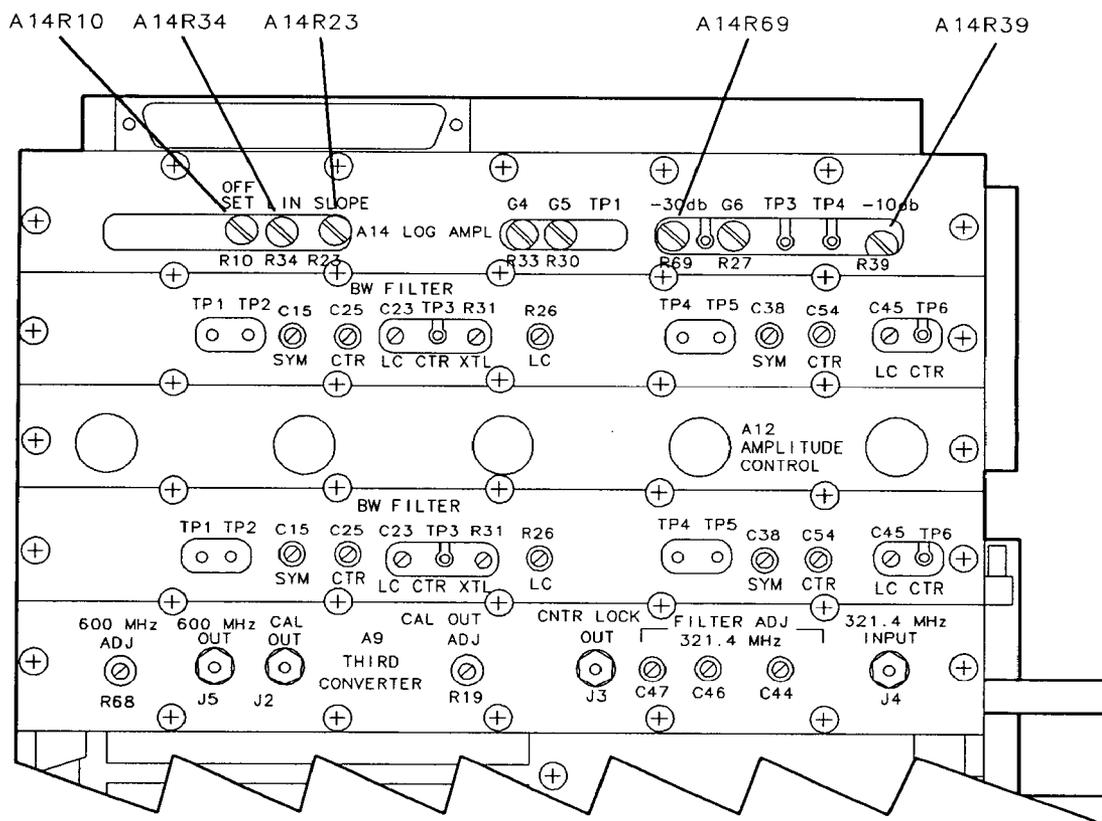

Figure 2-15. Log and Linear Amplifier Adjustment Location
11. Set the synthesizer to the level recorded in step 8 and adjust A14R23 SLOPE (refer to Figure 2-15) for a DMM reading of $1000 \text{ mV} \pm 1 \text{ mV}$.